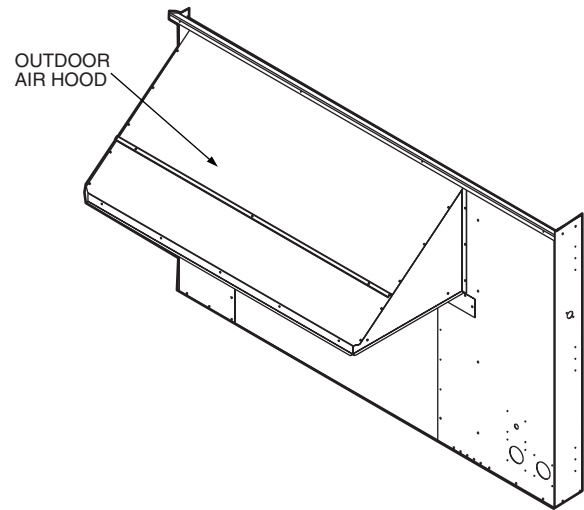

Fig. 2 — Outdoor Air Hood
- a. For units with two-position damper installed remove the outdoor air hood. See Fig. 2. Unplug the two-position damper and remove the assembly from the outdoor air opening.